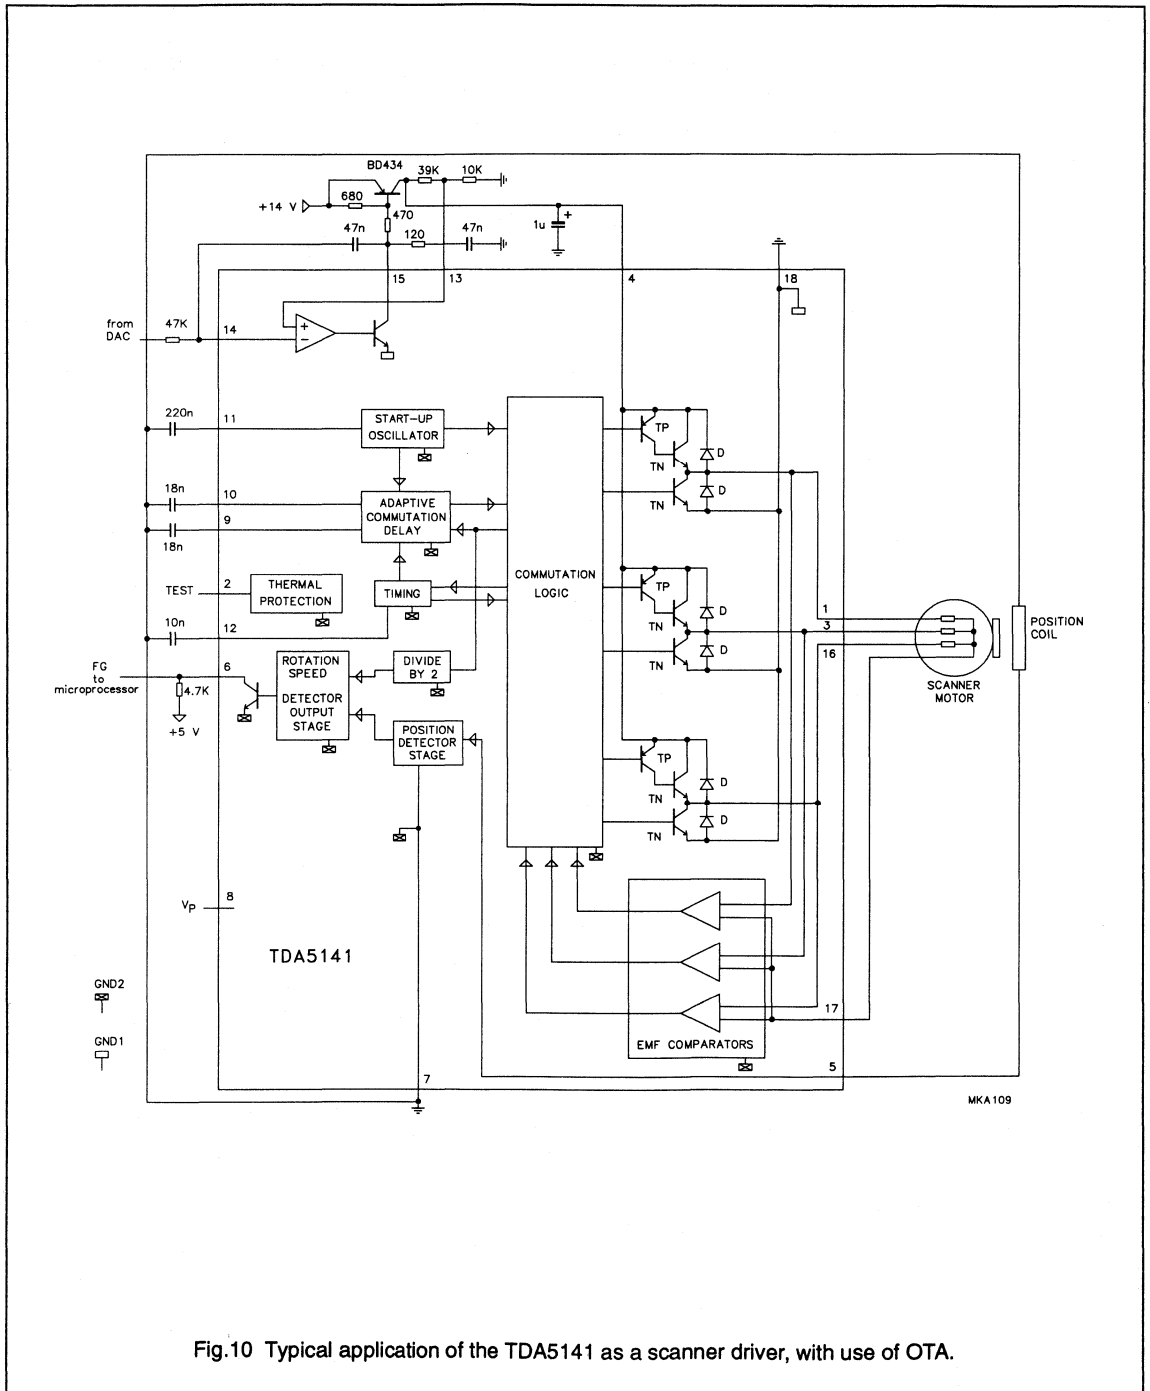

Fig.10 Typical application of the TDA5141 as a scanner driver, with use of OTA.
Introduction (see Fig.10)
- With analog control an external control transistor is required. The OTA can supply the base current for this transistor and act as a control amplifier (see Fig.10).
An alternative method of voltage control is to increase the output impedance for a certain frequency, such as the commutation frequency; the circuit illustrated by Fig.10 uses this method. The low output impedance increases to approximately 10Ω at 900 Hz. This circuit diagram is an example of the application of the TDA5141 with a VTR scanner for a PAL recorder running at 1500 rpm. The input signal is a PWM 5 V signal. The FGPG signal is read by a microprocessor that runs the servo control program.